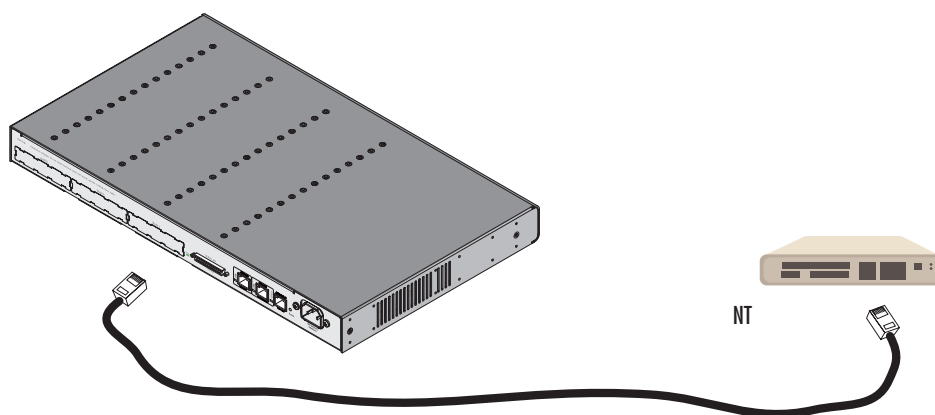
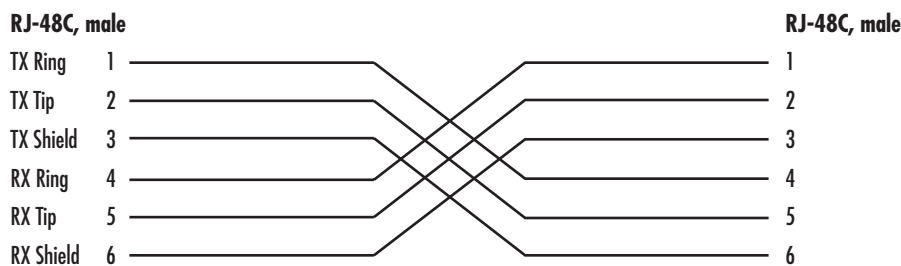

Figure 103. Connecting an T1 PRI port to an NT
Figure 104. T1 crossover cable
The T1 PRI is usually connected to a PBX or telco switch—local exchange (LE). Type and pin outs of these devices vary depending on the manufacturer. In most cases, a straight-through RJ-45 to RJ-45 can be used to connect the PRI with a PBX (an NT) (see figure 103). A cross-over cable is required to connect to an LE, as illustrated in figure 104.